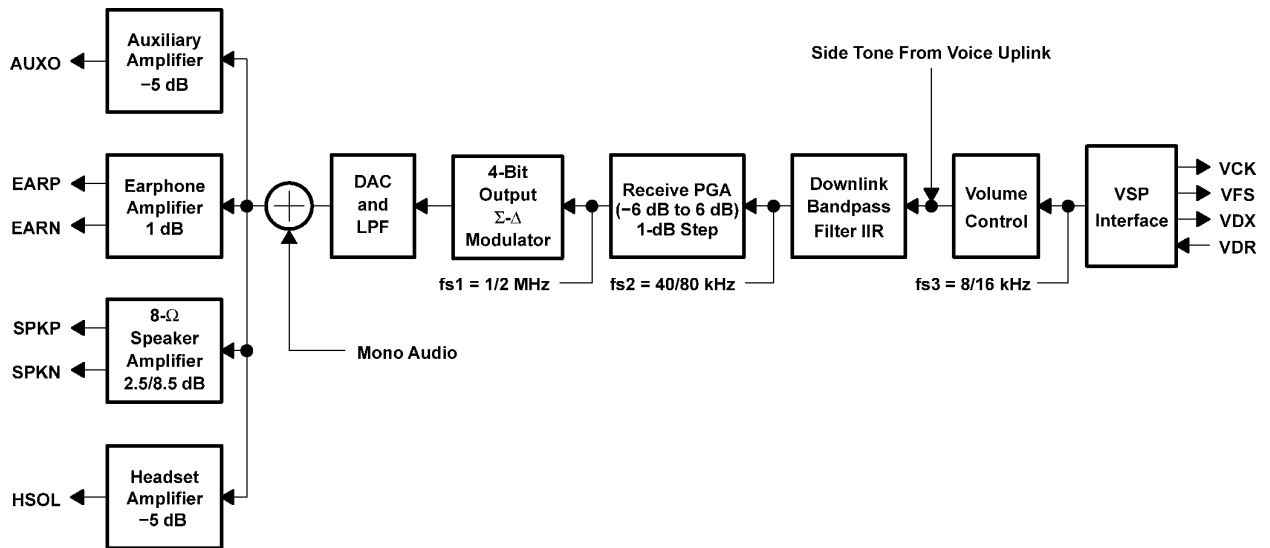

Figure 5: Voice Codec Downlink Patch
- Figure 5: Voice Codec Downlink Patch 11